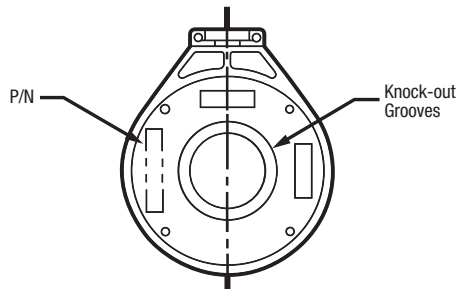

Figure 2 - Groove guides
1. One or more groove guides can be found on the inside face of the end cover. These will conform to shaft diameters equal to or greater than bearing bore sizes for that particular series. Prior to mounting, use a utility knife to score bottom of groove from inside of end cover to a diameter consistent with your shaft size (Figure 2).